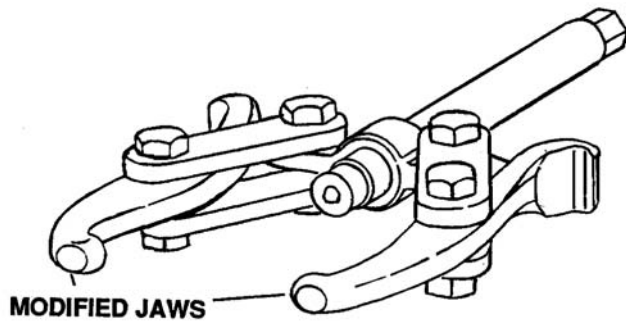

Figure 6-106. 2-Jaw Bearing Puller
- c. Use a modified 2-jaw bearing puller pulling against the two notches machined into the housing. Remove the charge pump assembly. See Figures 6-106 and 6-107.